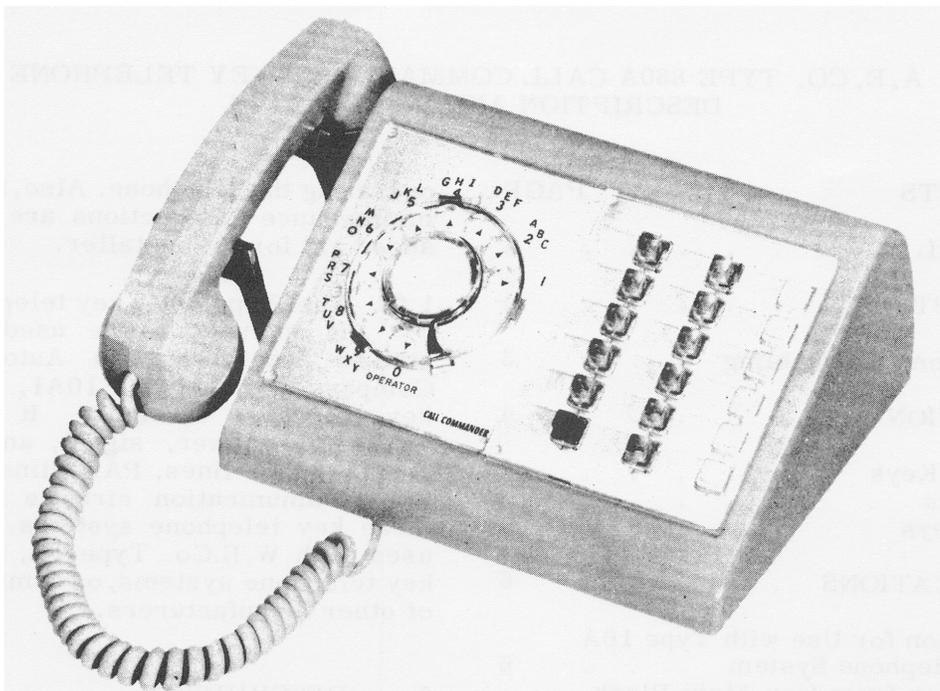

Figure 1. Type 860A Key Telephone.
1.02 The Type 860A key telephone (Figure 1) is intended to be used as customer's station apparatus with Automatic Electric Company Type 10A, 10A1, 10A2, or 16A key telephone systems. It is designed to originate, answer, signal, and hold calls on central office lines, PABX lines, tie lines, and intercommunication circuits associated with these key telephone systems. It can also be used with W.E.Co. Type 1A, 1A1, 1A2, or 6A key telephone systems, or comparable systems of other manufacturers.